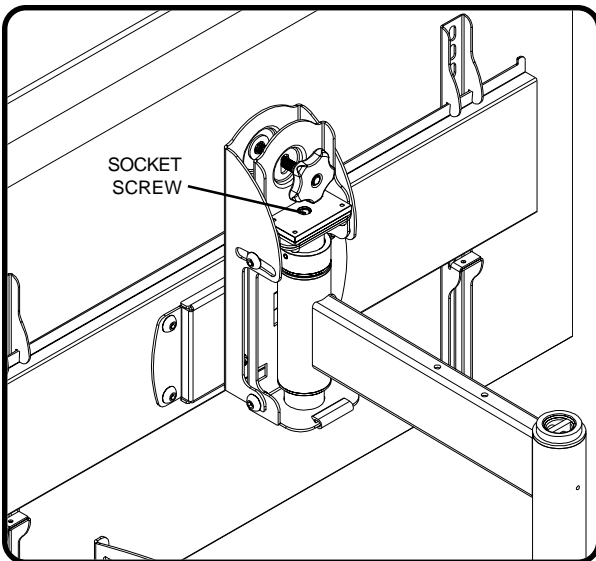

fig 10.1
- To lower screen, turn socket screw shown in figure 10.1 clockwise with 10 mm allen wrench (**V**).
- To raise screen, turn socket screw shown in figure 10.1 counterclockwise with 10 mm allen wrench (**V**).